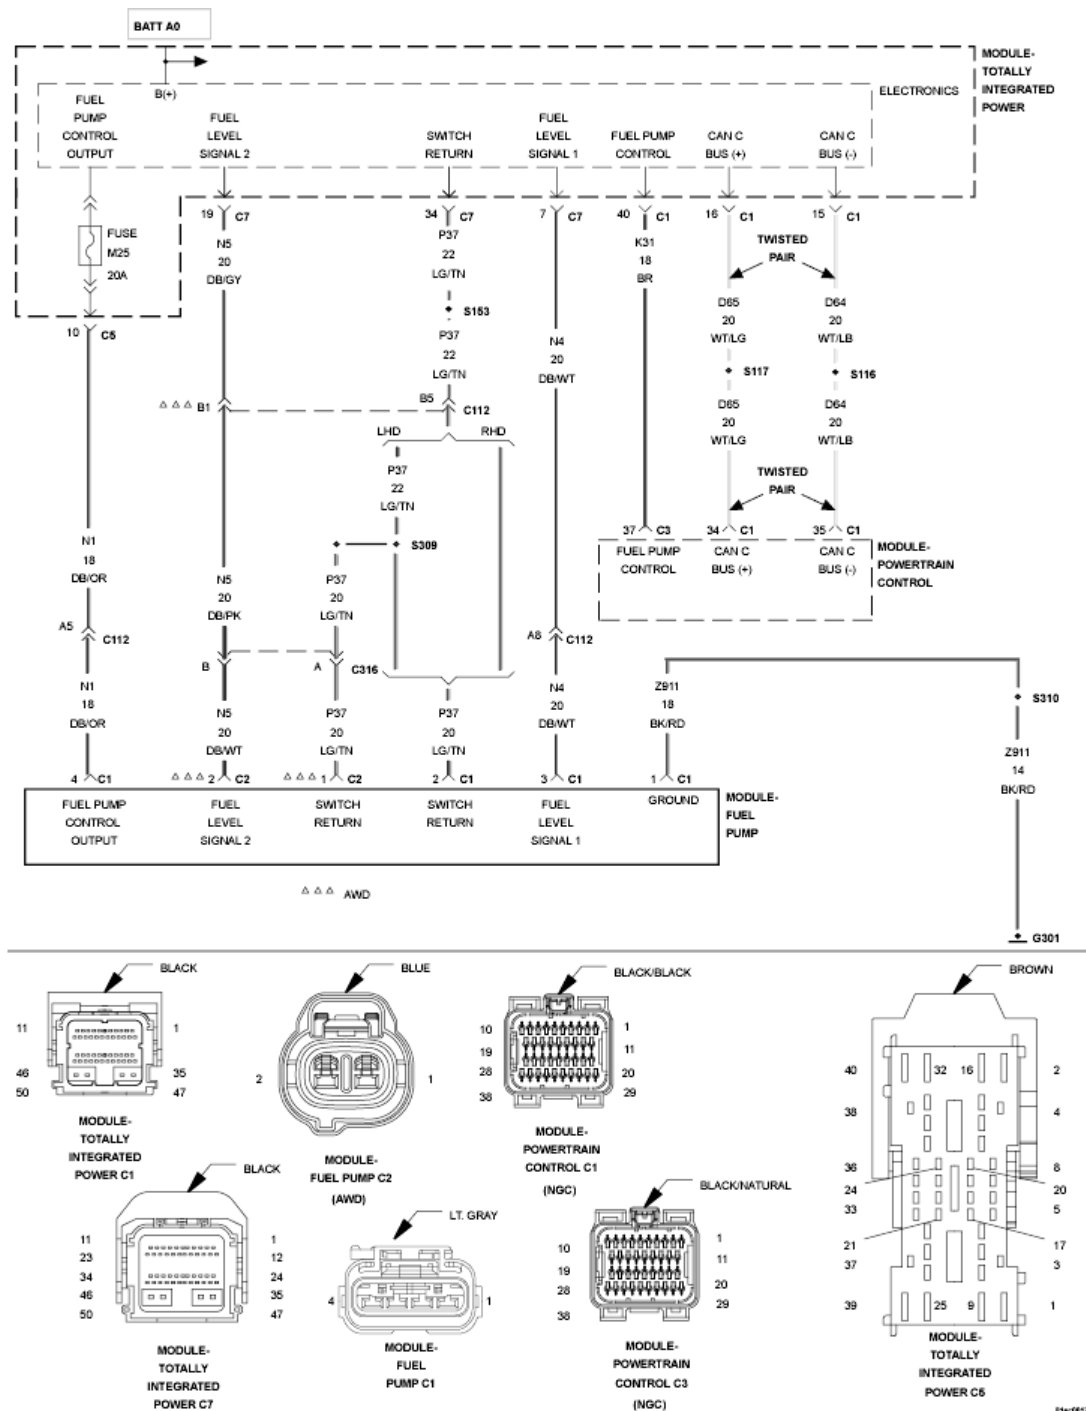

Fig. 5: Fuel Pump Module & TIPM - Circuit Schematic
1. Using **Fig. 5** as a guide, inspect the wiring and connectors between the Fuel Pump Module and the Totally Integrated Power Module (TIPM).